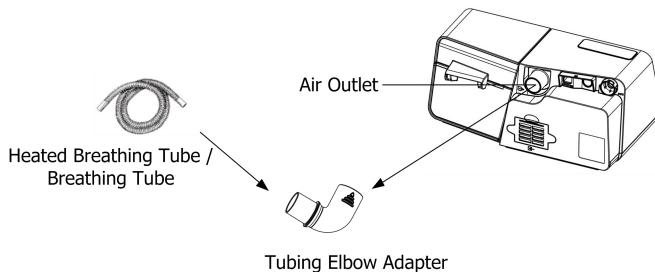

Fig. 12-12
(3) To apply the tubing elbow adapter, connect the tubing elbow adapter between the device air outlet and the tubing (heated breathing tube or breathing tube) as shown in Fig. 12-12. The 90-degree elbow helps to direct the tubing.